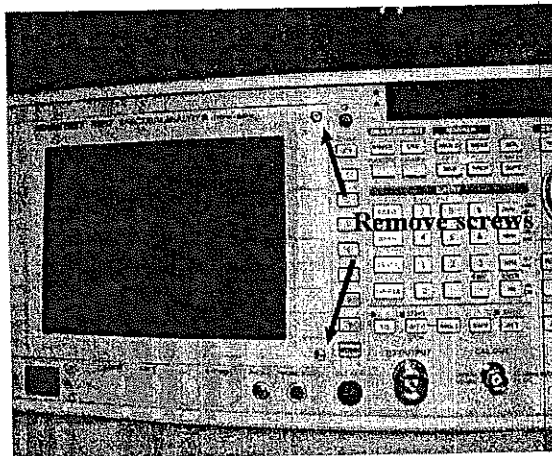

Figure 5-1 Location of Screws Display Bezel Fixed
1. Remove the 2pcs of screws, referring Figure 5-1.